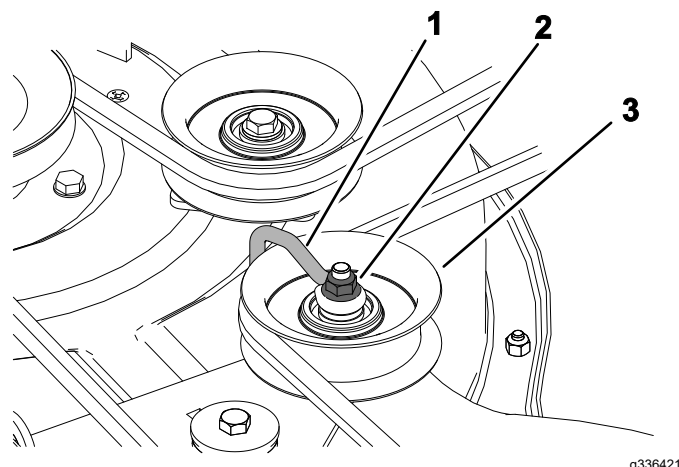

Figure 55
2. Screw (3)
6. Loosen the nut securing the wire form to the idler pulley (Figure 55).
Note: Position the wire form against the idler arm as shown in Figure 55.